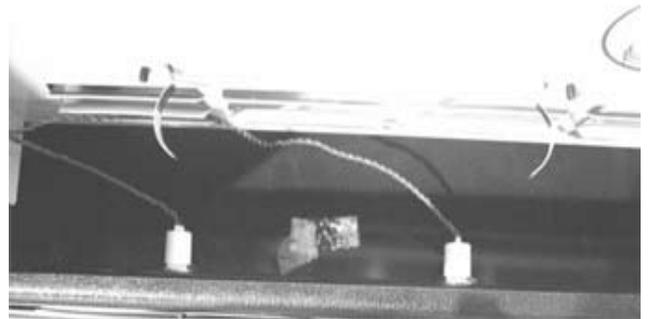

Figure 50.
- L. Remove both twists from clip, as shown in Figure 50. This removal needs to be performed the same on both sides of the merchandiser.